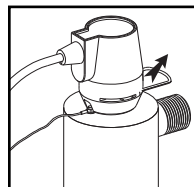
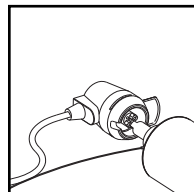
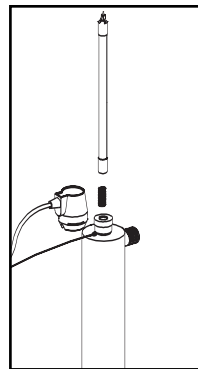

FIGURE 2A
FIGURE 2B
FIGURE 2C
2. Disconnect main power source and allow the unit to power down. Remove the lamp connector by sliding the metal retaining ring (Figure 2A) away from the body of the connector. Remove connector and lamp from the reactor chamber. Separate the lamp from the connector (Figure 2B). Do not twist the lamp from the connector, simply slide the two apart. Avoid touching the lamp on the glass portion. Handling the lamp at the ceramic ends is acceptable, however if you must touch the lamp glass, please use gloves, or a soft cloth. Fully remove the lamp from the reactor chamber being careful not to angle the lamp as it is removed from the chamber. If the lamp is removed on an angle, pressure will be applied on the inside of the quartz sleeve, causing the sleeve to fracture
3. To install a new lamp, first remove the lamp from its protective packaging, again being careful not to touch the lamp glass itself. Carefully insert the lamp into the reactor vessel (actually inside the quartz sleeve) (Figure 2C). Insert the lamp fully into the chamber leaving about two inches of the lamp protruding from the chamber. Next, attach the connector to the UV lamp (Figure 2B). The connector is “keyed” and will only allow correct installation in one position. Ensure the connector is fully seated onto the UV lamp (Figure 2D).
4. Once the lamp is fully seated on the connector, slide the connector over the aluminum retaining nut. Make sure the metal retaining ring on the connector is pulled away from the body of the connector in order that the connector may slide fully over the retaining nut. Once the connector is located fully over the retaining nut, slide the metal ring back in to lock the connector in place (Figure 2E). As this connector is keyed to the reactor chamber, make sure the notch on the connector (Figure 2A) is located over the ground lug located on the reactor chamber.